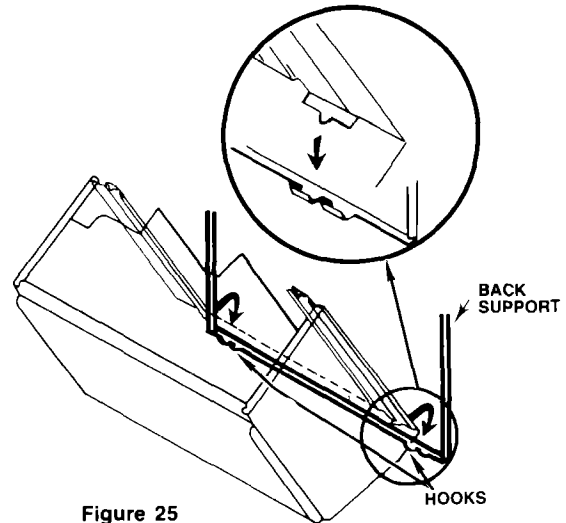
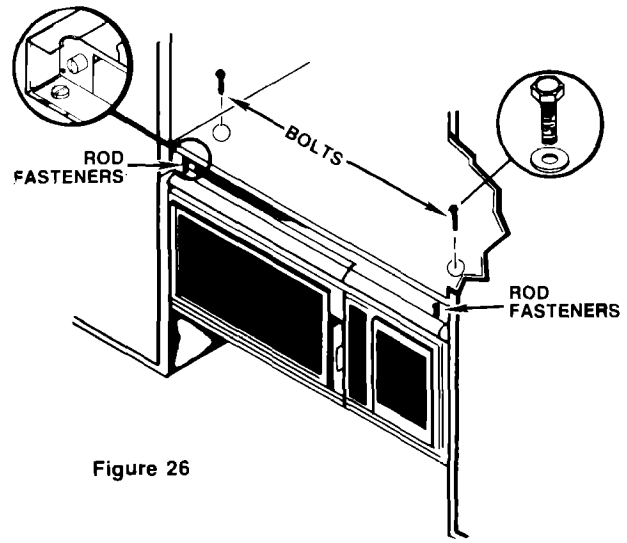

Figure 25
Figure 26
5. Hang the unit on the hooks at the bottom of the back support. (See figure 25.) Lift unit upward and secure by turning two (2) rod fasteners clockwise with a flat blade screwdriver a quarter turn until slot is horizontal and comes to a complete stop. Oven is now temporarily secure. (See figure 26.)
6. Place 5/16" diameter flat washers onto two (2) 1/4" x 1-1/2" long bolts. Screw bolts through top cabinet into cage nuts in top front corners of oven and tighten until side panels are snug to bottom of cabinet. (See figure 26.)
**CAUTION:** Where distance from floor of cabinet to top of oven is more than 1-1/2", two (2) 2-1/4" long bolts, provided, should be used in place of the two (2) 1-1/2" long bolts.